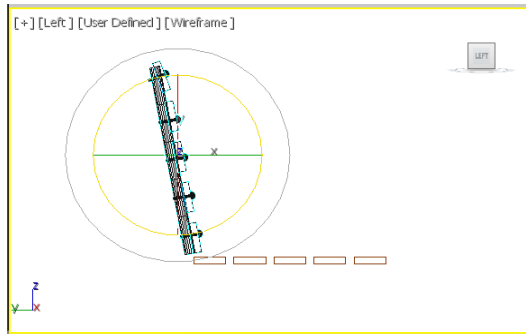

Figure 2-85 The back support after being rotated in the Left viewport
2. Move the cursor over the Z-axis, which is blue in color; the Z-axis turns yellow and becomes active. Now, press the left mouse button and drag the cursor counterclockwise to rotate the back support until the value in the **Z** spinner in the coordinate display becomes around **10**. Release the left mouse button; the *back support* group gets rotated, as shown in Figure 2-85.